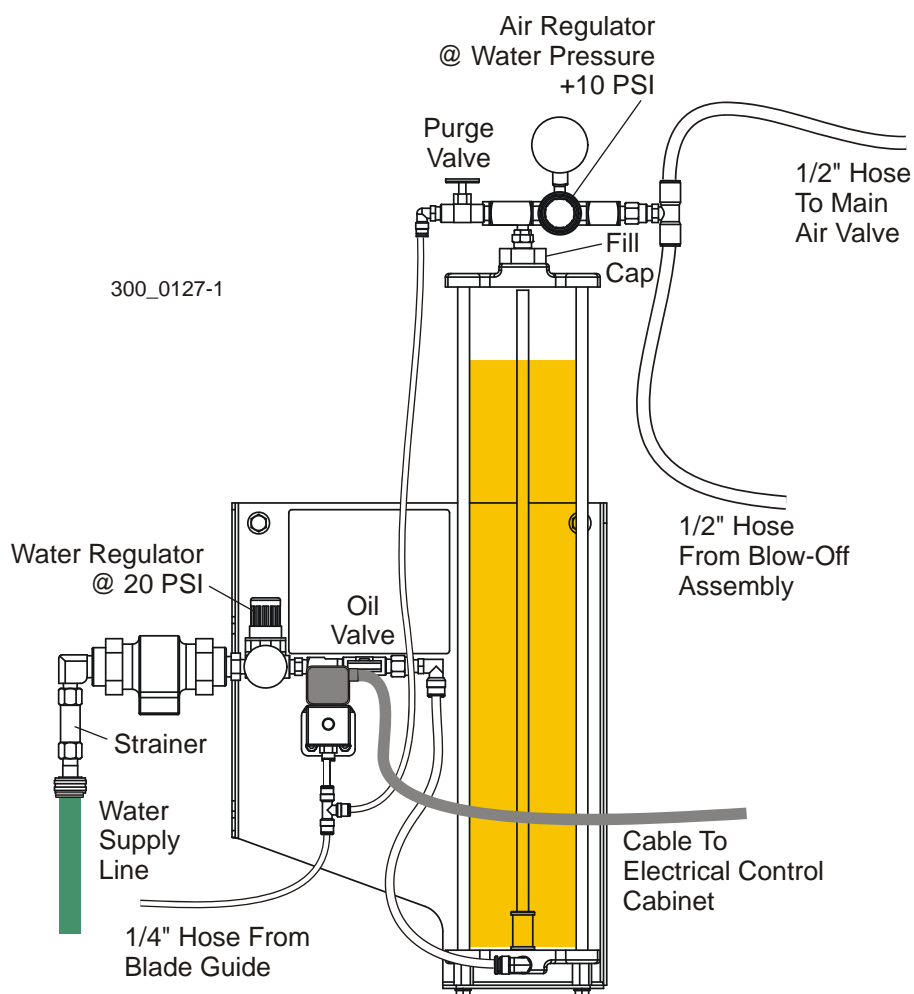

FIG. 3-6
**See Figure 3-6.** Connect a water supply hose to the water line fitting. Connect the 1/4" hose from the sawmill blade guide to the 1/4" 'T' fitting below the solenoid. Connect the 1/2" hose from the blow-off assembly to the 1/2" 'T' fitting at the top of the reservoir. Route the cable from the solenoid valve to the electrical cabinet at the operator station and connect the wires (See Section 3.5.6).